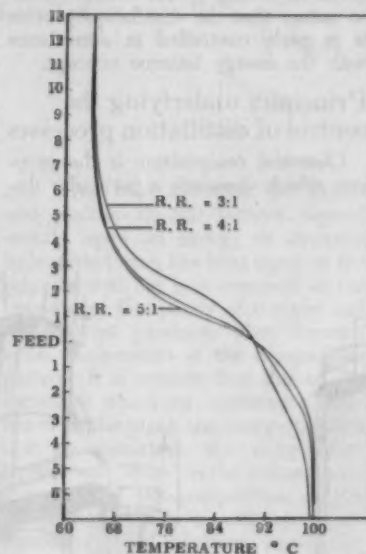

Figure 1. Temperature pattern of methanol/water separation.
a. Controlling the temperature at some point in the column will control the position of the composition pattern, since temperature and composition are related at a given operating pressure. Temperature patterns at various reflux ratios can be drawn similar to Figure 1 and will indicate the sensitive zone. Thus, the divergence of the lines in Figure 1 indicates that the maximum variation of temperature, at a given position in the column, occurs at 80 and 94°C. Temperature-difference measurement, a modification of this method, is particularly suitable for vacuum distillation where a single temperature may be seriously affected by the pressure at the impulse point which changes with the load on the column. It is also important to ensure that the temperature difference between the impulse points due to composition change is substantially greater than that due to pressure drop, otherwise a false signal will be obtained.